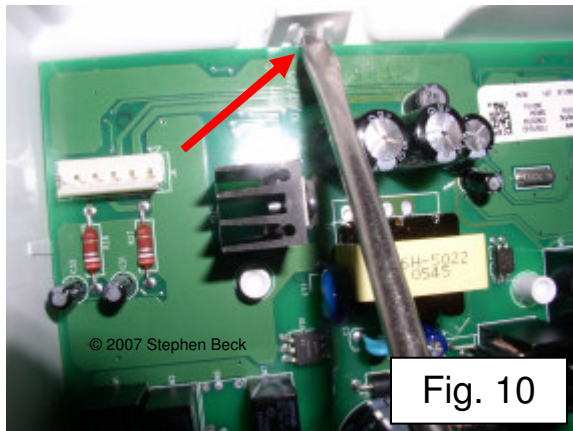

Fig. 10
- Using your flat blade screwdriver, push the small fingers on one of the tabs away from the PCB and using your finger, or the 2nd flat blade screwdriver, GENTLY pry the side of the PCB toward you enough to clear the fingers on the tab. (Fig 10)